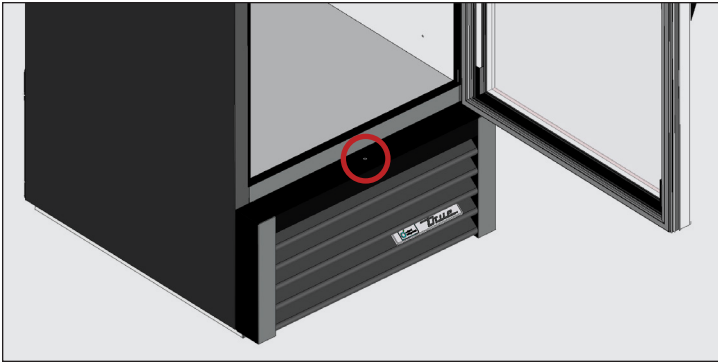

Fig. 1. Front louver grill screw location.
2. Remove the front louvered grill from the appliance. See fig. 1 and 2.